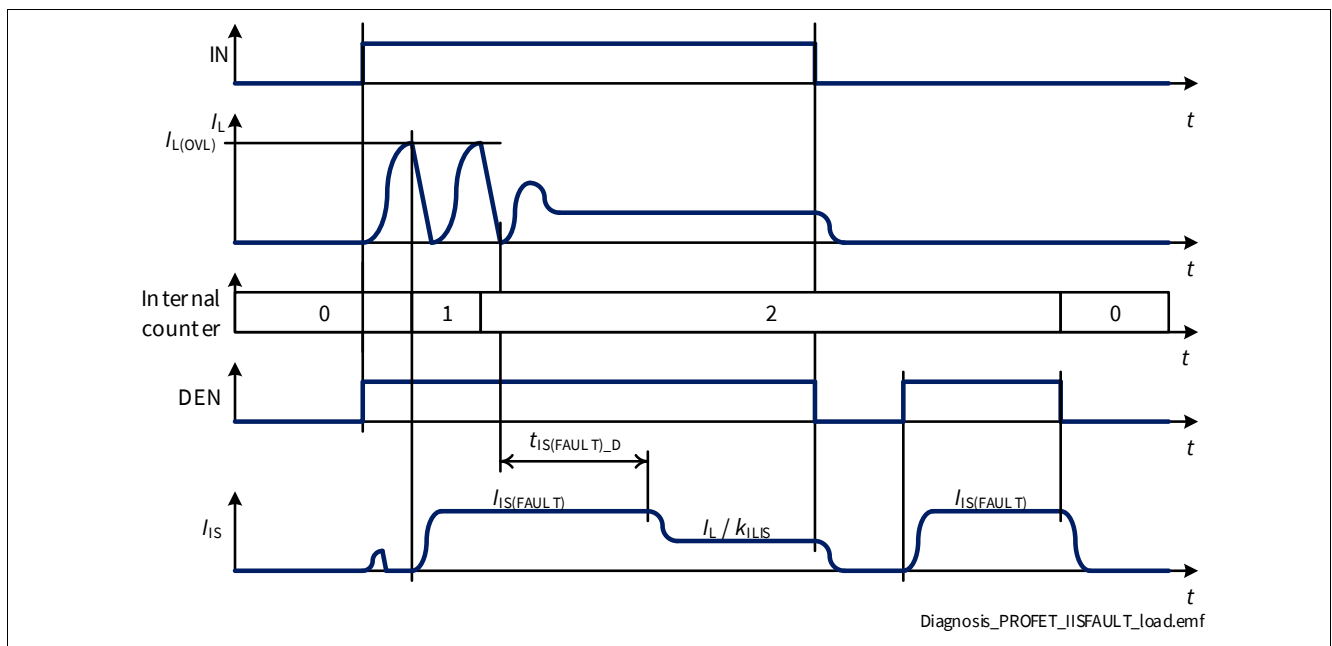

Figure 35 $I_{\text{IS(FAULT)}}$ at Load Switching
- If the channel is ON and the number of retries is lower than “ $n_{\text{RETRY(CR)}} + n_{\text{RETRY(CYC)}} * n_{\text{RETRY(NT)}}$ ”, the current $I_{\text{IS(FAULT)}}$ is provided for a time $t_{\text{IS(FAULT)_D}}$ after the channel is allowed to restart, after which $I_{\text{IS}} = I_{\text{L}} / k_{\text{ILIS}}$ (as shown in **Figure 35**). During a retry cycle (while timer t_{RETRY} is running) the current $I_{\text{IS(FAULT)}}$ is provided each time the channel diagnosis is checked